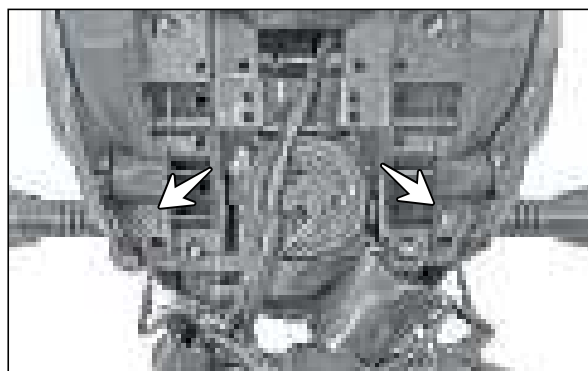

Fig. 5.78
- Remove the CRR pan head tap screw (M6x16 - 2 Nos.) from the bracket housing head lamp. (Fig. 5.78)